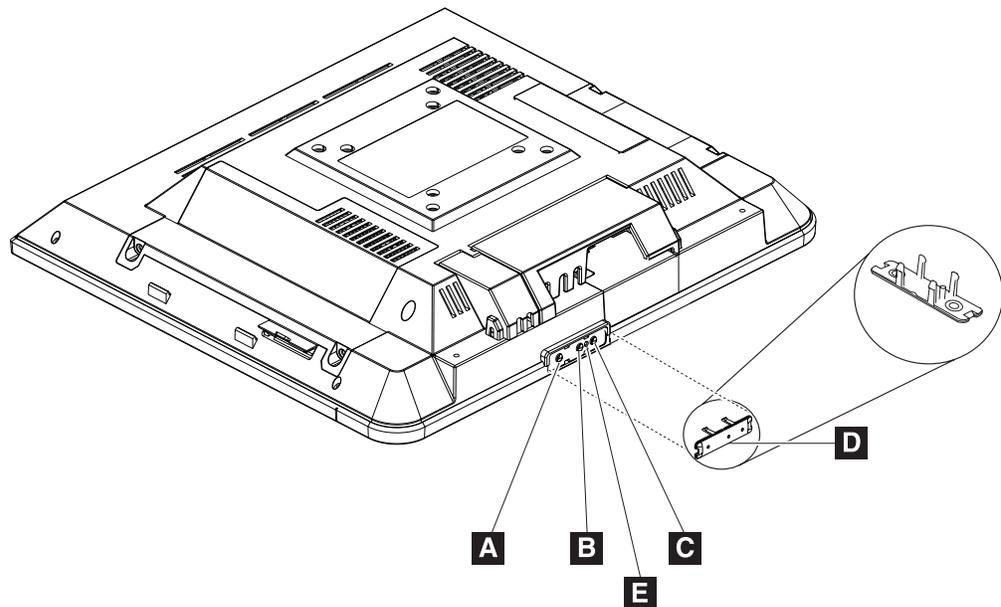

Figure 11. IBM 4836 controls and installing the control cover
2. A small hole (**E** in Figure 11) under the control cover allows you access to the reset switch. Use a paperclip or other small tool to activate the switch.
3. Power on the IBM 4836 using the power switch (see **A** in Figure 11). The 4836 power light-emitting diode (LED) will initially appear green.
See Figure 11. To install the control button cover (**D**), follow these steps: